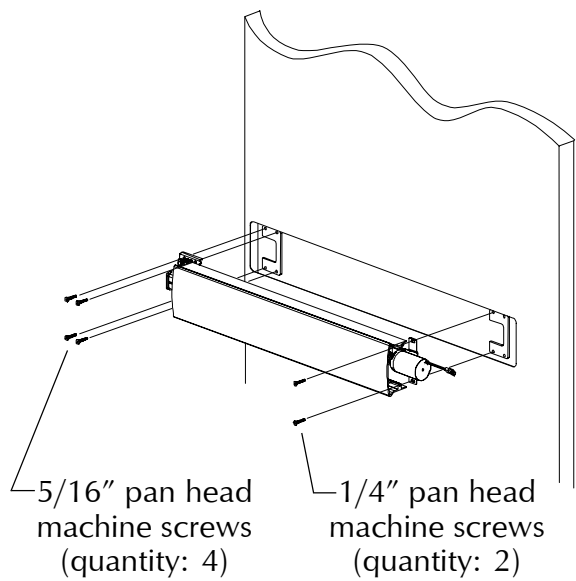

Figure 5-1
- 5.1. Mount device on door using supplied mounting screws (Figure 5-1).